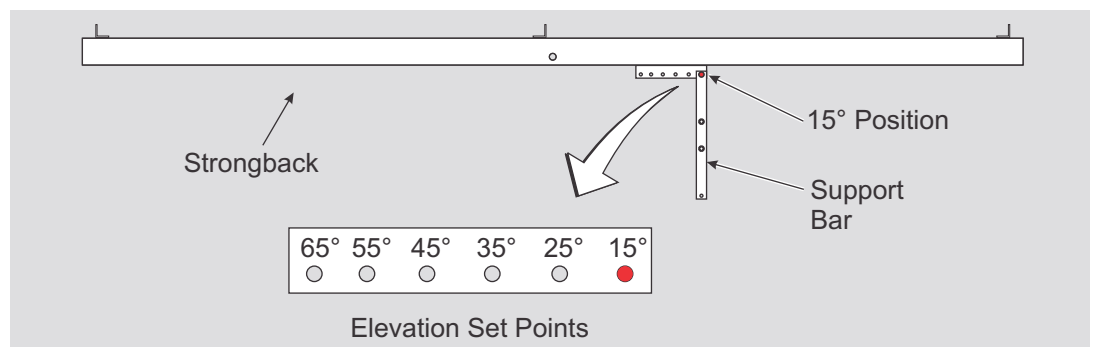

Figure 2-1: Positioning Support Bar
- Remove the Support Bar from the Strongback and re-install in the 15° elevation set point. Secure with the 3/8" or 1/2" hardware and finger tighten. (See Figure 2-1)